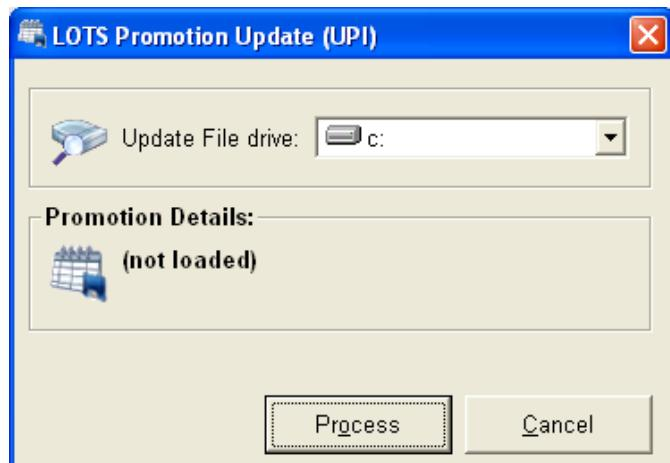

Figure 268
- After selecting the 'Update Promotions' button the 'LOTS Promotion Update (UPI)' window will be displayed (as shown in Figure 268).